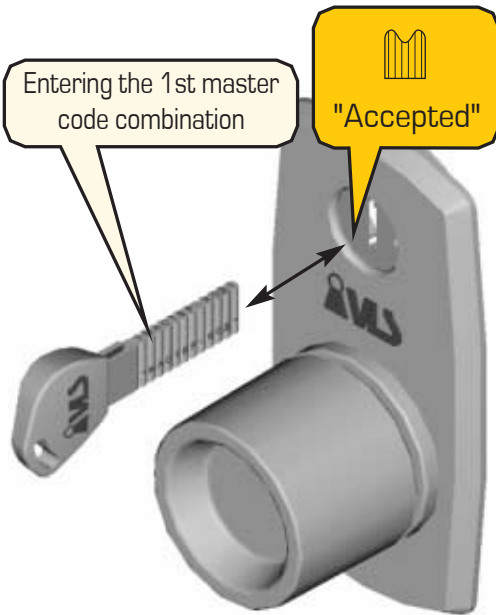

Figure 22 – Entering the 1st master code combination
5. Set the first master code combination according to p. 4. Insert the key into the keyhole up to the stop, and then remove it. When you insert the key, the "Accepted" signal shall be heard, and when you remove it the "Accepted" signal shall be heard (fig. 22).